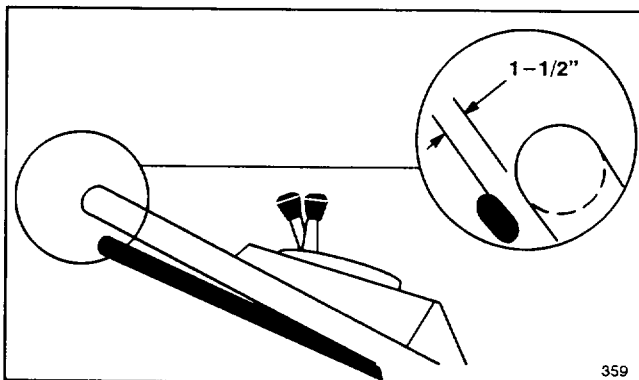

Figure 19
2. **CHECK ADJUSTMENT**—Slowly pull mower backward while control bar is gradually moved toward handle. Adjustment is correct when rear wheels stop turning and control bar is about 1-1/2 inches from handle (Fig. 19).